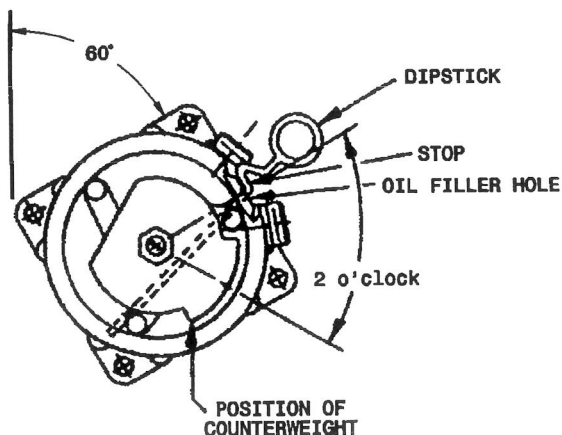

Figure 1
- b) Remove oil filler plug. Using a socket wrench on the armature retaining nut, turn the shaft clockwise until the counterweight is centered on the 2 o'clock position as shown in Figure 1.
**NOTE:** If compressor is not mounted in windrower, measurement must be taken with compressor level and rotated 60° as shown in Figure 1.